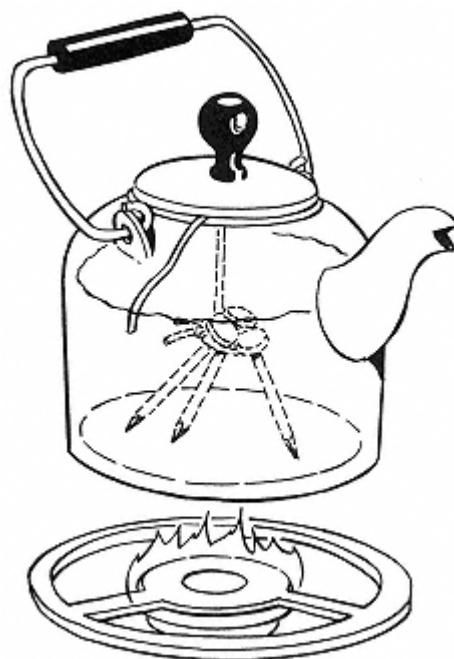

Figure 28.1
7. Lay the string over the top of the kettle and close the lid. *Note:* The lid should hold the string stationary with the nails suspended in the water (see Figure 28.1).